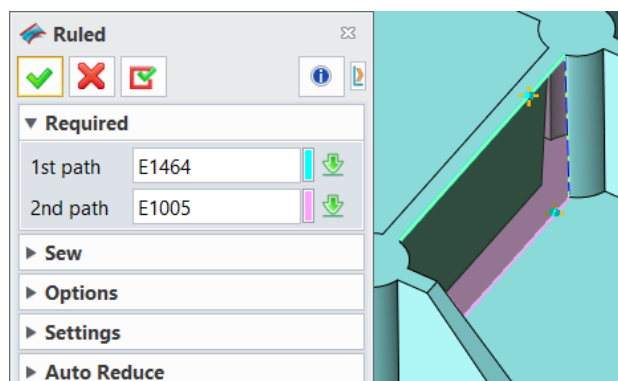

Figure 14 Create Ruled Face
STEP 14 Continue to *Zoom to* another open edge. Use **Ruled** command in **Free Form** tab, then pick the open edge. Setting is shown as Figure14.